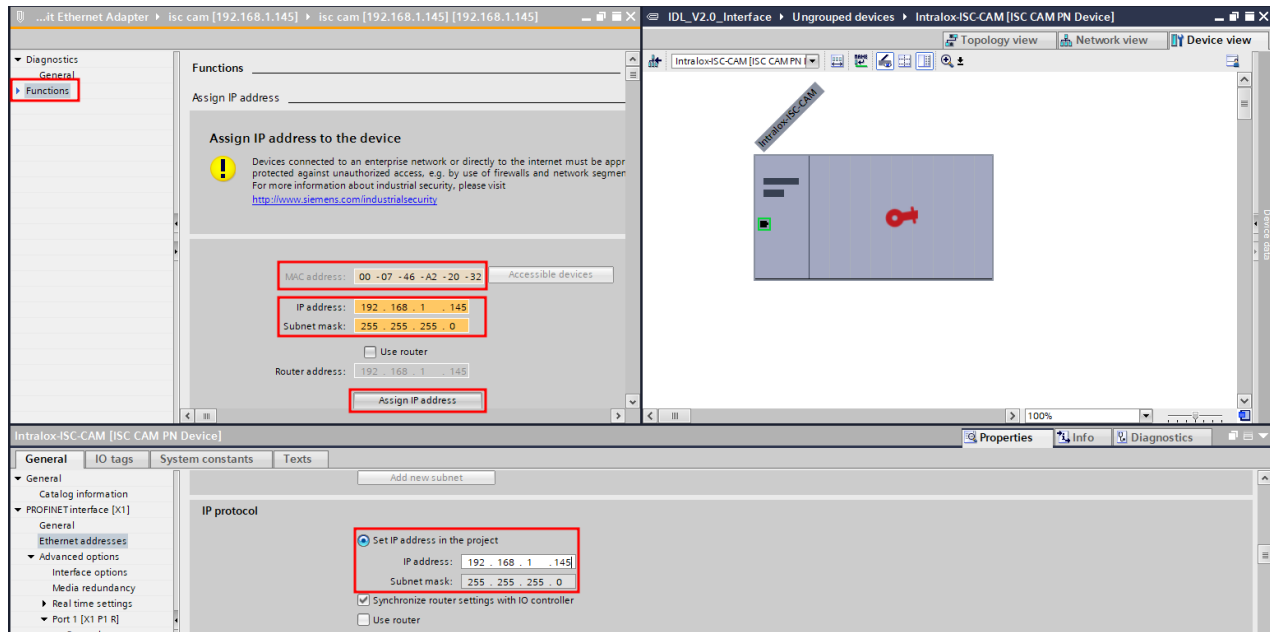

Figure 12: Setting IP Address for ISC CAM device
22. Choose "Functions" from the left column, Figure 12.
23. Verify the "MAC address" matches the connected device, Figure 12.
25. Change the IP Address to match the address of the project, Figure 12.
26. Provide a correct "Subnet mask" for the device, Figure 12.
27. Click "Assign IP address," Figure 12.